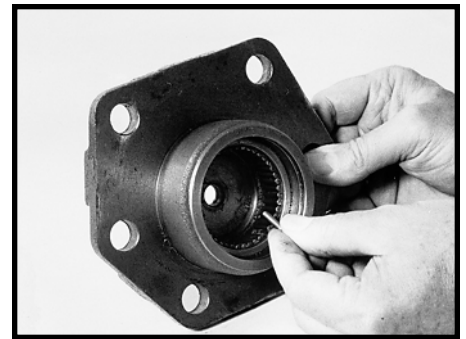

Figure 138
- 32. If the side cover (58) has loose bearing rolls, assemble the bearing rolls into the side cover bearing race. An unmarked bearing or bearing BR-866-1 requires 44 rolls. Bearing F83508 requires 43 rolls. SEE FIGURE 138.